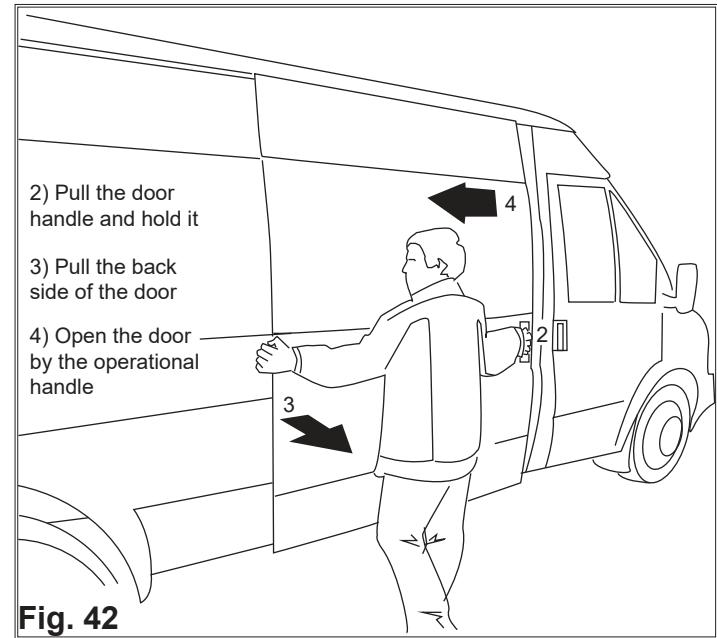

Fig. 42
2. Pull and hold the door handle (Fig. 42).
3. Pull the left-hand part of the door towards you (Fig. 42).
4. Open the door with the door handle to the left, (Fig. 42).